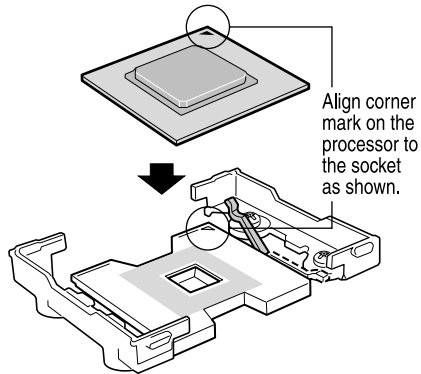

FIGURE 5-21 Inserting the Processor
5. **Insert the processor into the socket as shown in Figure 5-21.**